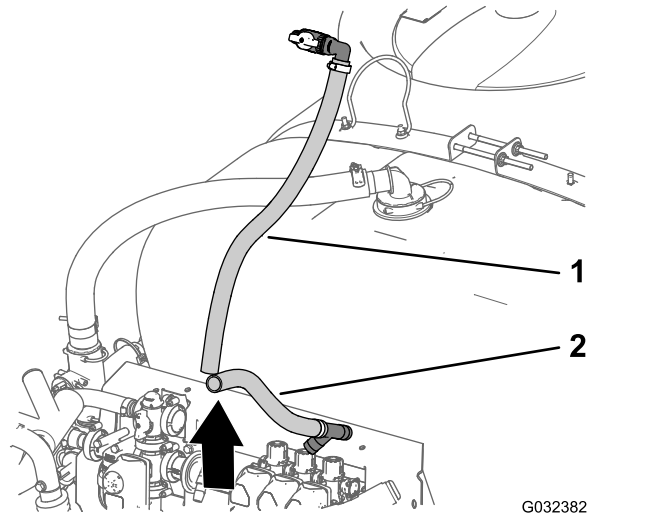

Figure 54
- Remove the upper and lower bypass hoses from the machine (Figure 54).